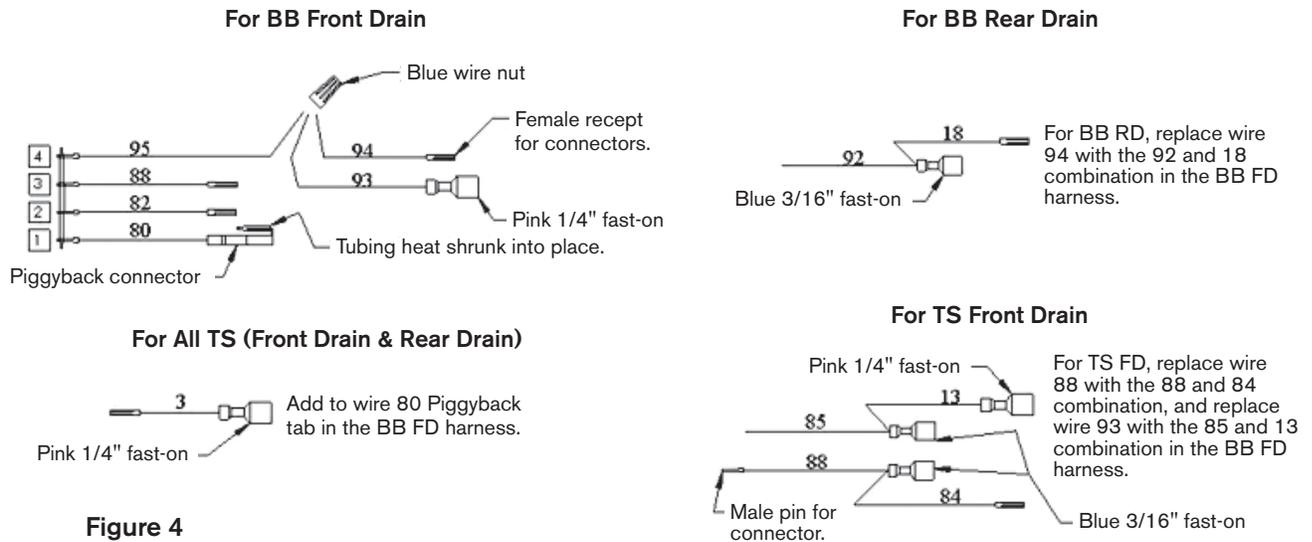

Figure 4
1. A basic wire harness has been constructed and supplied with the conversion kit. See Fig. 4 a. This assembly, as is, is compatible with BB Front Drain fryers. Simply install it according to the wiring diagrams at the end of this document.
2. For other models, the basic wire harness must be reconstructed. See Fig. 4 b, c, or d and match to the model being converted. When converting TS fryers, use wire 3 (YL). Install this wire on to the tab of the piggyback connector on the end of wire U80 (YL) - remove the protective heat shrink tubing on the piggyback connector first.